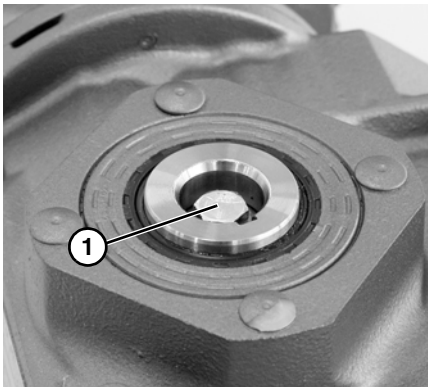
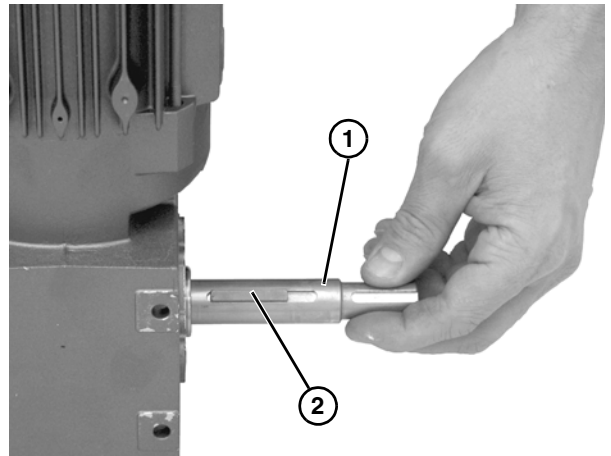

Figure 16
Figure 17
- Remove shaft mounting bolt (**Figure 16, item 1**) and remove shaft.
- Insert the new shaft (**Figure 17, item 1**) and key (**Figure 17, item 2**) into new gear reducer. Tighten screw (**Figure 16, item 1**) to 35 in-lb (4 N-m).